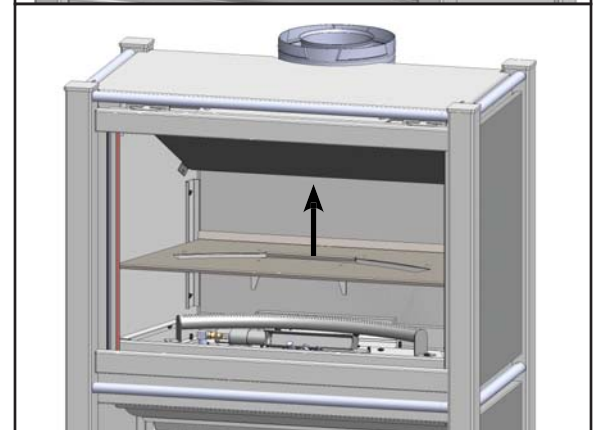

Fig.11
6. Remove floor plate assembly from appliance and set aside. (Fig.11)